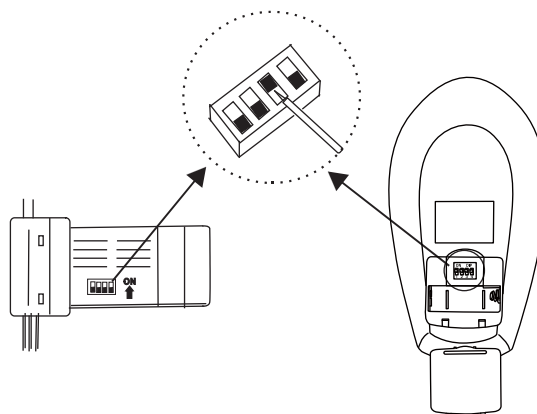

Figure 9
**NOTE:** The Hand Held Remote Control units included with your ceiling fan are equipped with 16 code combinations to prevent possible interference from or to other remote units. The frequency switches on your Receiver and Transmitter units have been preset at the factory. Please re-check to make sure the switches on both units are set to the same positions. The frequency settings should be changed only in case of interference or if a second or more remote controlled ceiling fans are installed in the same room. Any code combination will operate the ceiling fan and light as long as the Receiver and Transmitter units are set to the same codes (Fig. 9)